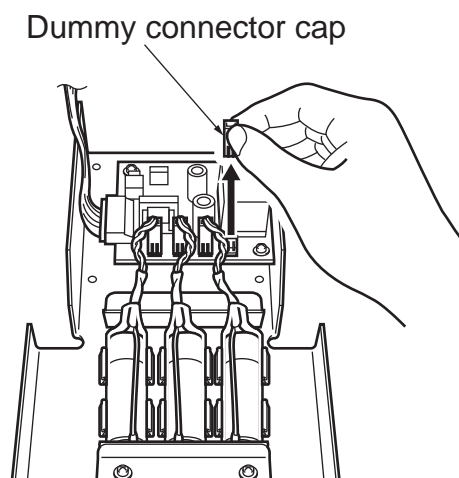

Figure 5-3. Removing Dummy Connector Cap
5. Remove the dummy connector cap from the battery board. See Figure 5-3.